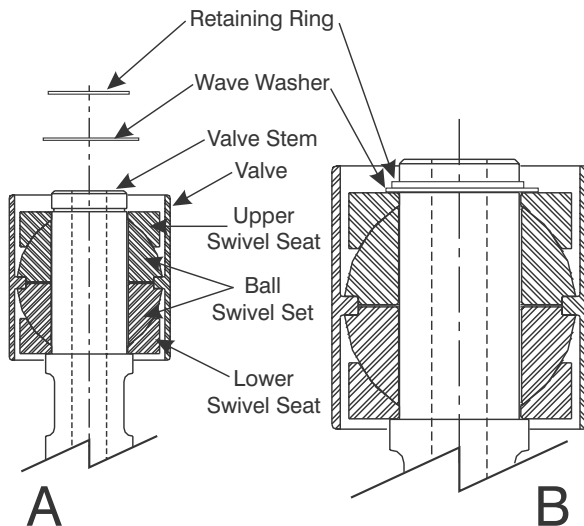

Figure 9-12. Install the Retaining Ring and Wave Washer.
12. Install the upper Swivel Seat (5) and the Wave Washer (4) as shown in Figure 9-12.